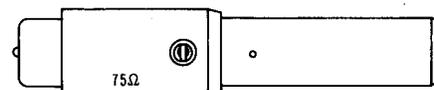

Fig. 18—442A Plug
2.16 **442A:** The 442A plug (Fig. 18) is a coaxial-type 75-ohm, terminating device. The 442A plug mates with 560A, 561A, and 562A jacks and is used in the L4 Mastergroup Multiplex.